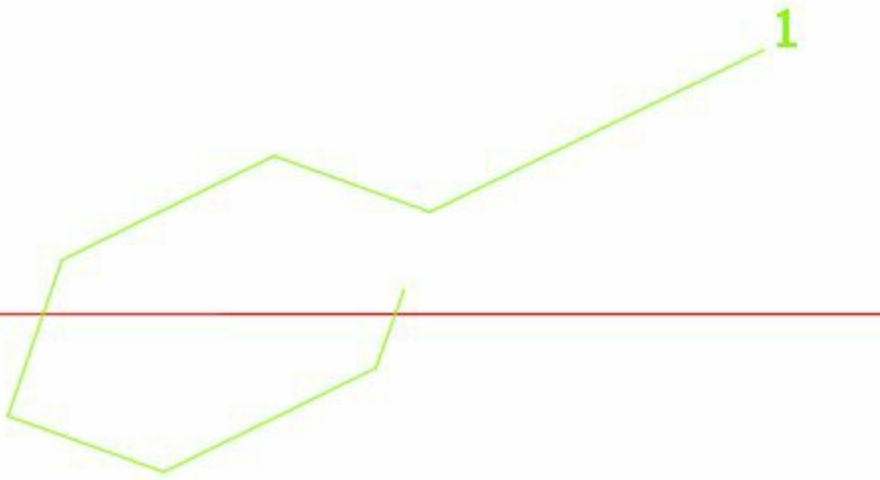

Figure-34. Wire number leader assigned
- Click in the drawing area to specify the point or press ENTER. The wire number leader will be assigned; refer to Figure-34.